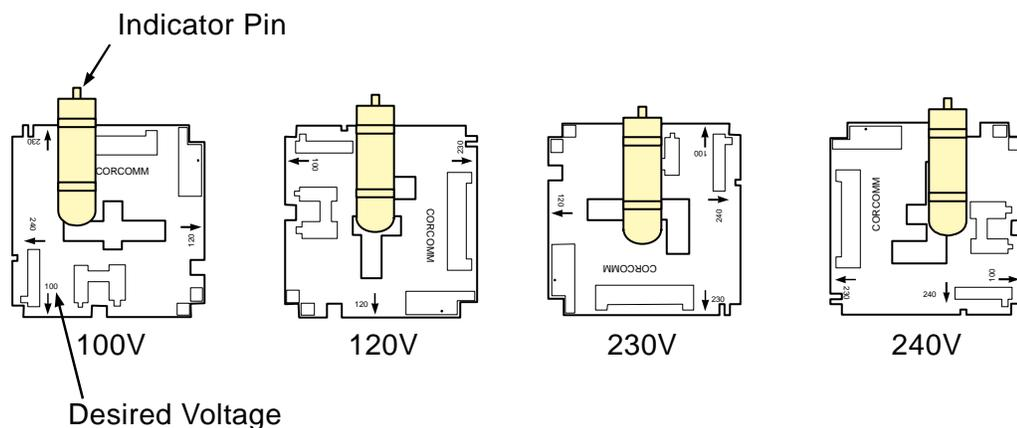

Figure 88. Voltage Selector Card
- 2 Orient the voltage selector card so that the numbers indicating the desired voltage are positioned at the bottom of the card, as shown in Figure 88.